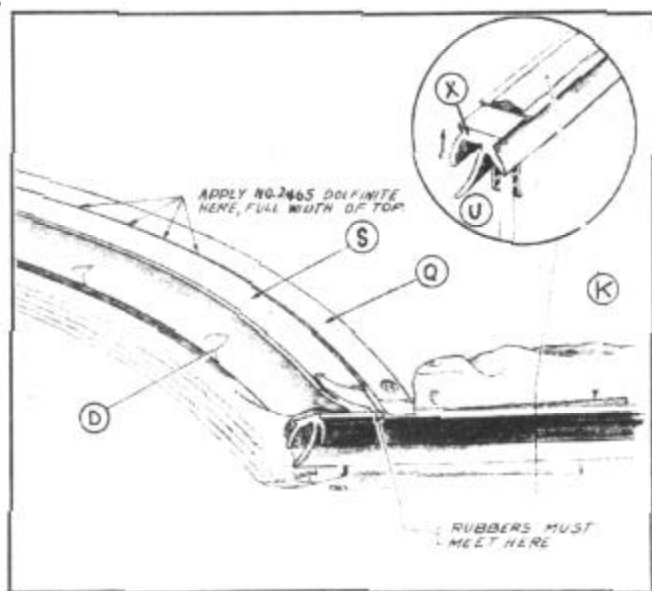

FIGURE 191
Water leaks between weatherstrip lip (U) or (V), Figure 191 and 192, and top of door window frame or at front end of weatherstrip (U) at front pillar post can usually be corrected by performing top adjustments and window adjustments, as outlined on Pages 110 and 111. If these adjustments do not remedy the condition or the weatherstrips may be hard or weatherworn, replace the front and intermediate top side rail weatherstrips (U) and (V) and retainers as follows:
4. Lay 6" of the Body Caulking or Permagum on top front end of the front side rail weatherstrip retainer leaving approximately 1" of caulking extending over the front end of the retainer, Figure 191.
5. Install the front side rail weatherstrip and retainer (X). Be sure that rear end of weatherstrip butts up squarely with front of intermediate weatherstrip; then install rear screw first but do not tighten.
6. Trim front end of the front rubber so that center lip will follow the contour of the front pillar and form a seal between the door vent wind moulding and door pillar seal inner lip to form a perfect seal at front pillar and vent wing; outside lip to be cut at an angle so that water drainage will be continuous along outer lip to front pillar seal, Figures 191 and 193.